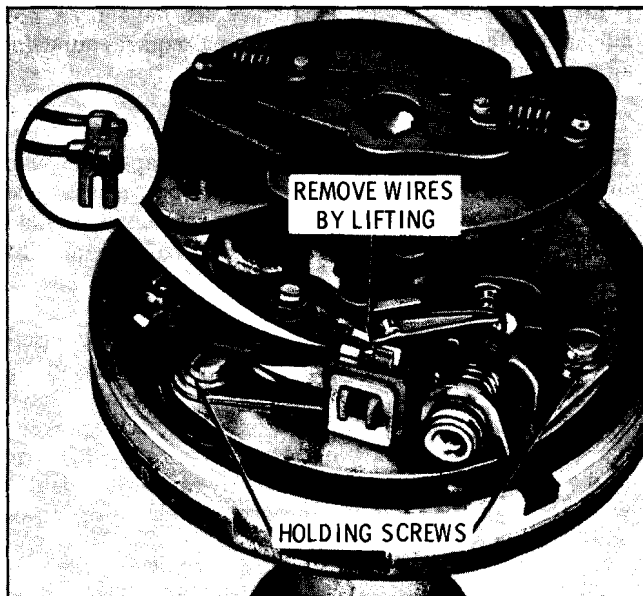

Fig. 6E-56B Arrangement of Lead Terminals
4. Remove condenser lead and primary lead from nylon insulated connection (Fig. 6E-56B) in contact set.